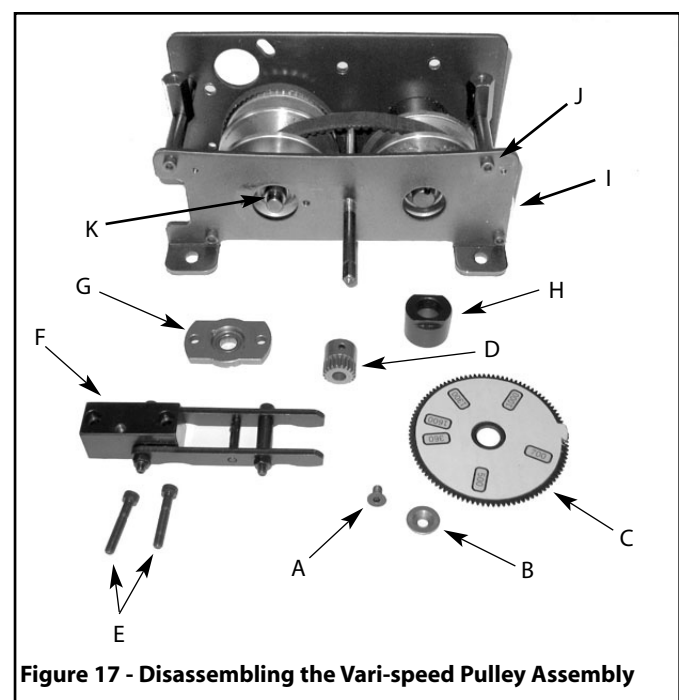

Figure 17 - Disassembling the Vari-speed Pulley Assembly
Refer to Figures 17, 18 and 19..
- Mark teeth of gears so that they may be assembled in same position as when removed (Fig. 17, Ref. C and D).
- Remove screw, spacer and gear (Fig. 17, Ref. A, B and C).
- Loosen set screw and remove gear (Fig. 17, Ref. D).
- Loosen and remove two bolts and fork assembly (Fig. 17, Ref. E and F).
- Remove bearing plate and bushing (Fig. 17, Ref. G and H).
- Loosen and remove four bolts and front plate (Fig. 17, Ref. I and J). Be careful to not change position of rod.
- Remove snap ring (Fig. 17, Ref. K) and slide pulleys from shaft.